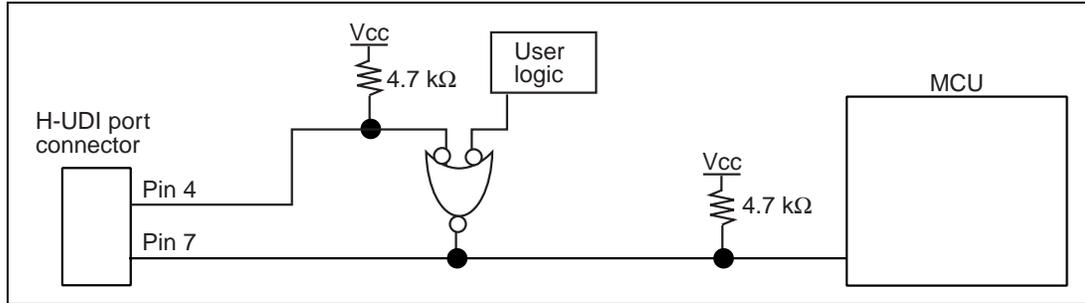

Figure 4.4 Examples of Reset Circuits
- RES# of pin 4 of the H-UDI port connector is a signal line in which the emulator outputs signals to the MCU. RES# of pin 4 and the user system reset circuit must be connected to the MCU, as shown in figure 4.4. RES# of pin 7 of the H-UDI port connector is a signal line in which the emulator monitors the RES# signal of the MCU. The RES# must be pulled up before it is connected to pin 7 of the H-UDI port connector.